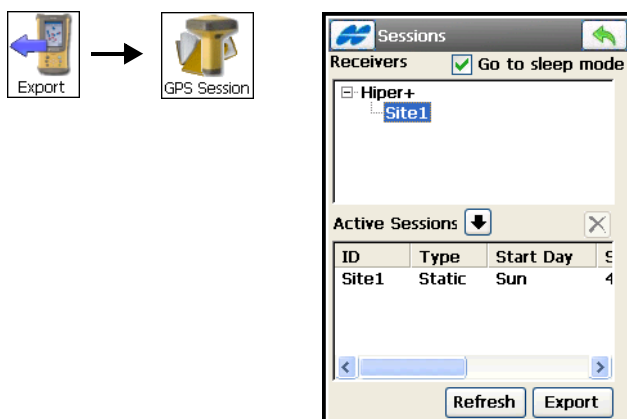

Figure 5-45. Job Session
To export the GPS session to the receiver, establish a connection between the controller and the applicable receiver, then tap **Export ▶ Sessions** (Figure 5-45).
2. On the *Sessions* screen (Figure 5-45), select the sessions to export in the left panel and tap the  button. The sessions to be exported are displayed in the right panel.